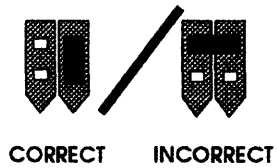

Figure A.3 – Correct and incorrect jumper installation.
**CAUTION:** When changing jumper settings, be sure to short only the two pins on a single jumper block. Serious damage could result from shorting pins from two adjacent jumpers (see Figure A.3).